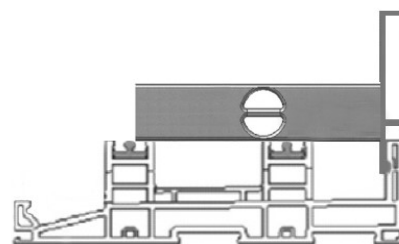

Figure 17
2. Locate the frame jambs. If an add-on fin (Item 27) needs to be installed, locate the fin(s) and remove the frame jamb anchor plates (Item 2; Figure 17) closest to the exterior of the opening. Install the add-on fins in place of the anchor plates. Slide the fin into the frame head.
Helpful Tip: Use a short torpedo level and balance it across the frame sill to verify the sill is level from inside to outside (Figure 17). Use a plumb bob to make sure the frame head is in alignment with the sill. If the tracks at the frame sill and head are not aligned, panels may not roll correctly.